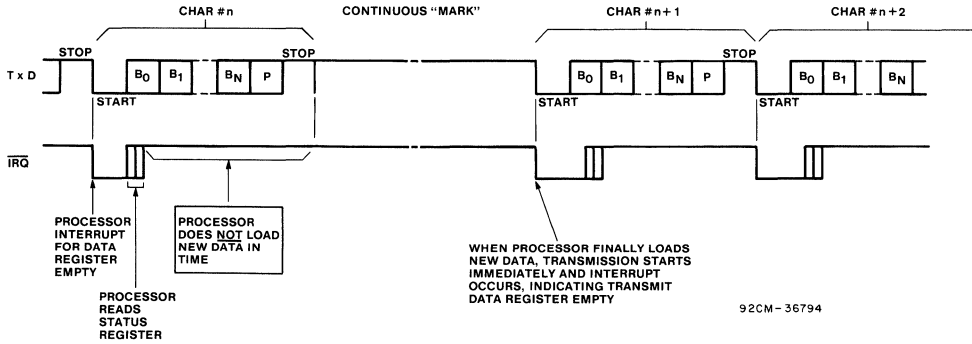

Fig. 10 - Transmit data register not loaded by processor.
**Transmit Data Register Not Loaded By Processor (Fig. 10)**